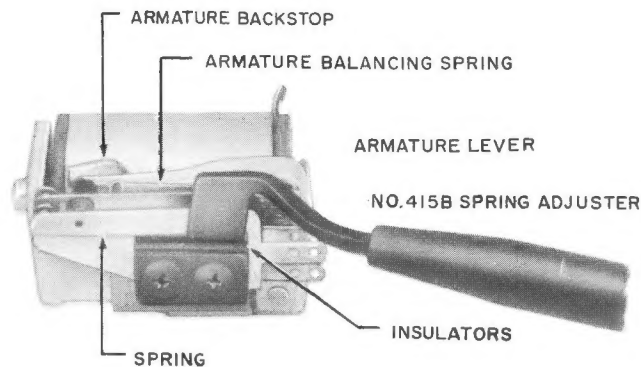

Fig. 4 — Adjusting Spring for Tension
- (2) Release the armature and check that the pressure between contacts is satisfactory. If it is not, readjust the No. 2 and 4 springs, as required, using the No. 415B spring adjuster applied near where the spring leaves the insulators (see Fig. 4). Make sure that the separation between contacts with the relay operated is satisfactory.
- (3) With the relay adjusted to meet the contact separation and contact pressure requirements, check that the gap between the studs and their associated springs is satisfactory. If it is not, adjust the No. 3 spring to meet the gap between the No. 4 spring stud and the No. 2 spring, and adjust the